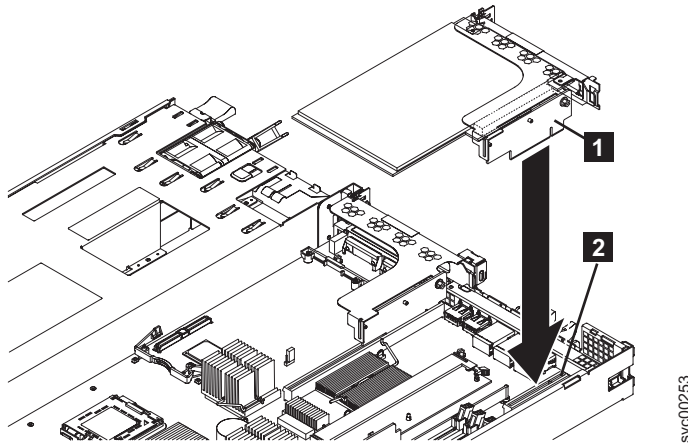

Figure 182. Replacing the riser-card assembly for the SAN Volume Controller 2145-8G4
1. As you start inserting the adapter, align the edge connector on the low-profile adapter **1** with the connector **3** on the riser-card assembly **4**. Make sure that the adapter snaps into the riser-card securely. Press the riser-card edge connector firmly into the system-board connector **5**, as shown in Figure 182.